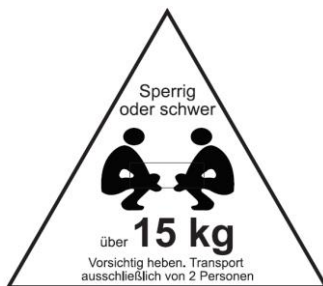

Fig. 9: Example of labelling for heavy secondary packaging over 15 kg
- However, if the product-specific properties (e.g. the weight of the primary packaging) exceed the maximum recommended weight, appropriate warnings should be provided on the secondary packaging (for an example see Fig. 9).